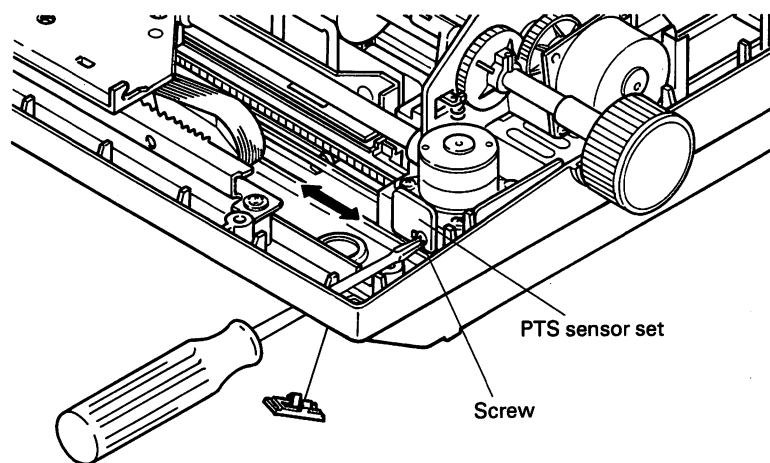

Fig. 4-26. Position Adjustment of PTS Sensor
2. Insert a screwdriver through the hole used to secure the front cap (Refer to Fig. 4-26). Loosen the screw securing the PTS sensor set.